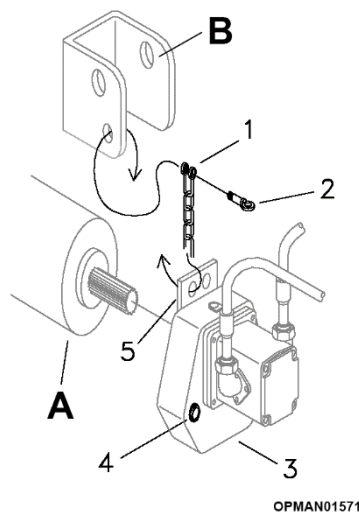

Figure 3.2
With reference to Figure 3.2, insert the pump/gearbox group (3) onto the tractor's PTO (A) and secure with the bracket (5) via a chain (1), to a fixed tractor point (generally near the 3rd hitching point (B)). The chain, locked in place by a protection device, impedes rotation and prevents assembly release.